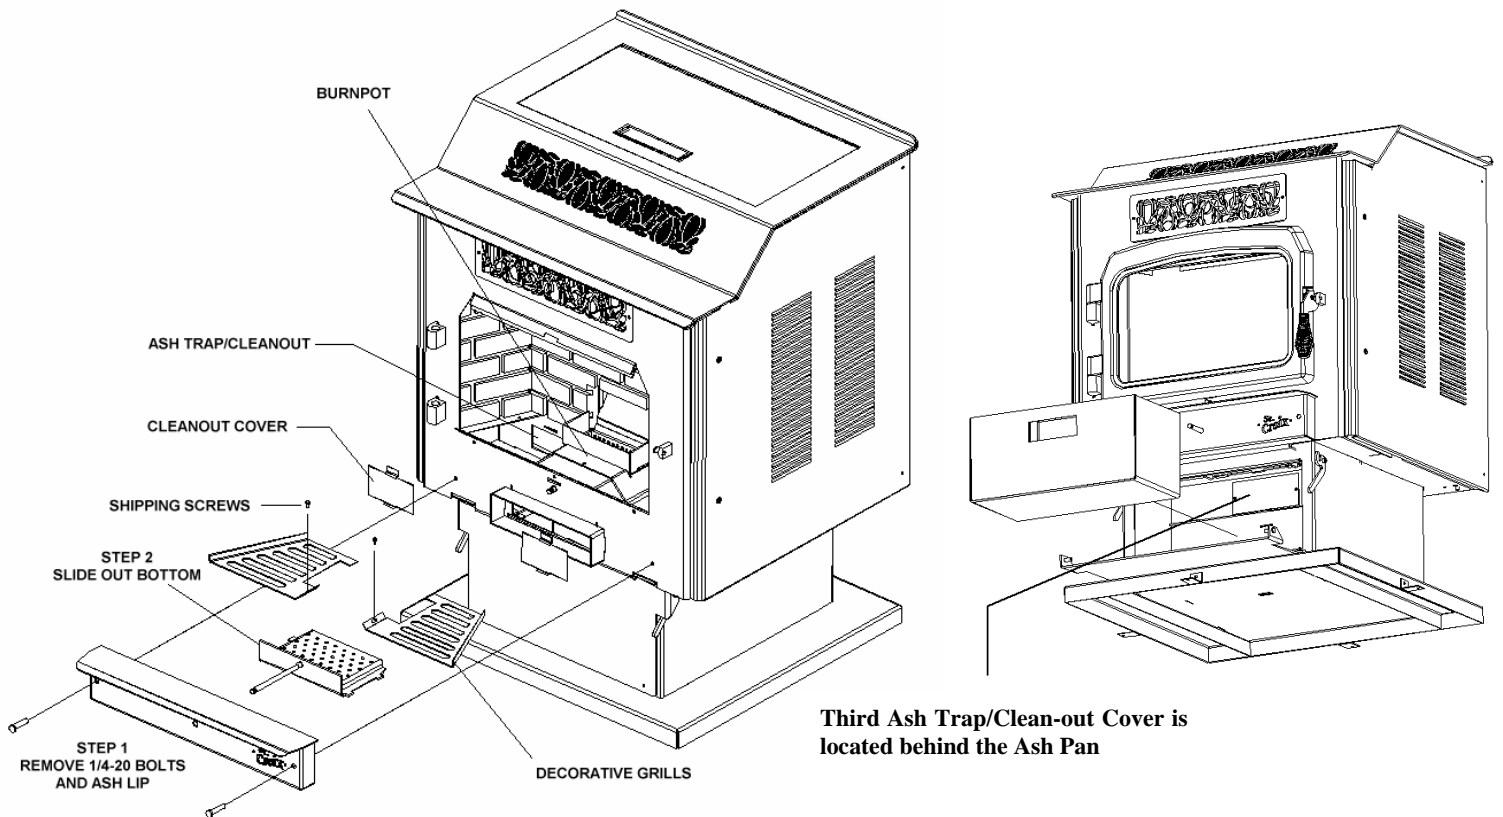

Figure 10
To remove the Burnpot from the stove, the Coal Rake must be pulled back so the pot will clear it. Open the Firebox door of the stove and you will see 2 Hex head screws. Follow steps 1 through 4 in figure 8 to remove the Burnpot from the stove. To remove the Slide-out Bottom follow steps 1 and 2 shown in figure 10.
3. **Clean-Out Ports/Ash Traps.** The stove has 3 Exhaust Cleanout Ports located in the LEFT AND RIGHT lower corners of the firebox and a 3rd clean-out is located behind the Ash Pan. Left Cleanout/Ash Trap Cover shown in figure 10. Remove covers and clean with a vacuum regularly.
Figure 10 shows how the baffle is removed from the Stove. Clean the baffle on a regular basis. Frequency of cleaning depends on amount of fuel being burnt and the quality of the corn. **Failure to clean the Baffle can cause the stove to become plugged with Fly Ash.**
1. **Spring Shutdown.** After the last burn in the spring, cool the stove. Remove all corn from the hopper and the auger. Thoroughly clean the burn pot, burn pot box, ash pan and ash traps behind the ash pan. (To locate the ash traps see figure 10 on page 17)